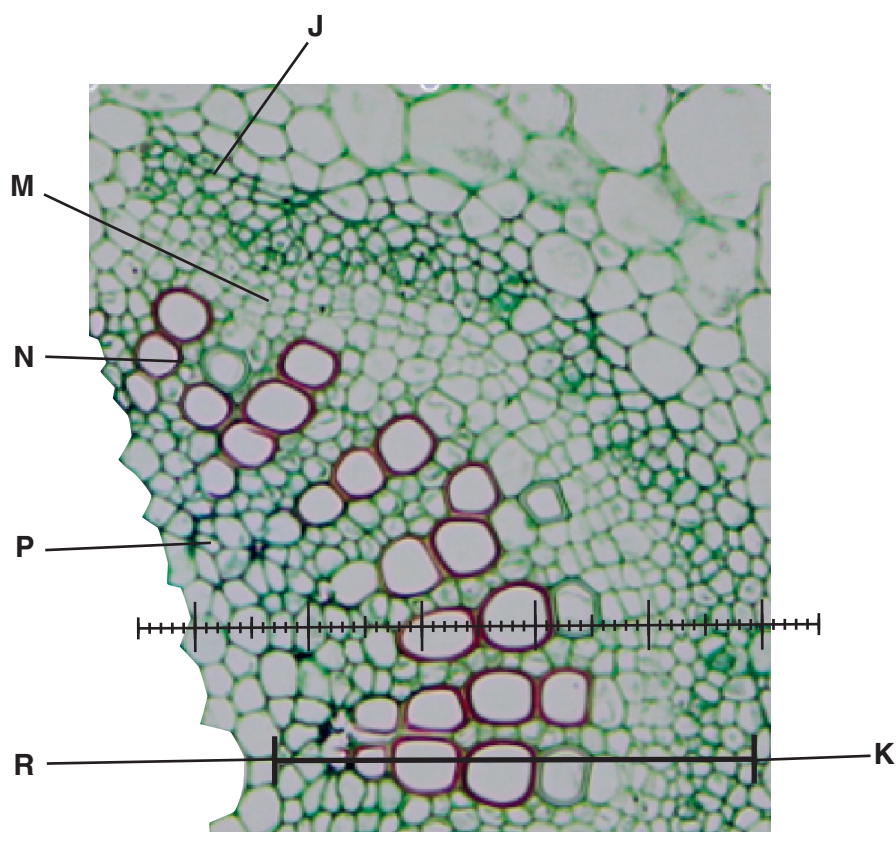

Fig. 2.1
- 2 Fig. 2.1 shows a photomicrograph of a transverse section through part of a plant stem showing an eyepiece graticule scale as seen using a microscope.
- (a) (i) The length of the vascular bundle (from **K** to **R**) in Fig. 2.1 was measured using the eyepiece graticule scale and recorded in Table 2.1.
Complete Table 2.1 by finding the thickness of the different layers **L**, **M**, **N** and **P**, labelled in Fig. 2.1, using the line between **R** and **K** and the eyepiece graticule scale. [2]
L1 is a slide of a transverse section through the same plant stem as in Fig. 2.1.